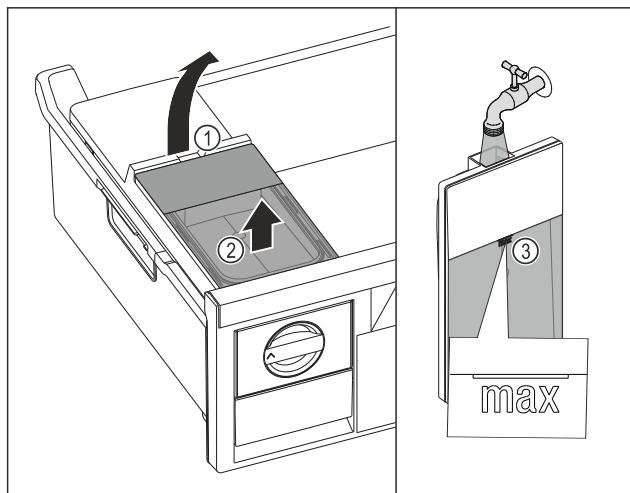

Fig. 62
- Lift the water tank at the recess Fig. 62 (1).
- Remove the water tank by lifting it upwards. Fig. 62 (2)
- Fill the water tank with drinking water up to the mark Fig. 62 (3).